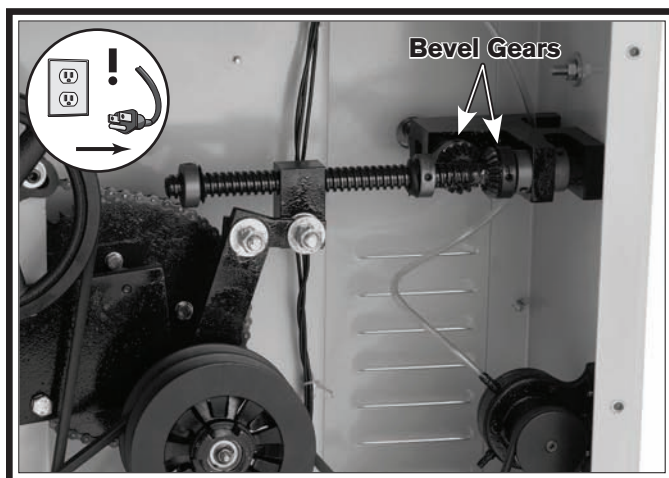

Figure 50. Location of bevel gears.
2. Remove the rear lower access panel, and use a 4mm hex wrench to loosen both bevel gear locking set screws (see **Figure 50**) just enough to adjust the bevel gears.